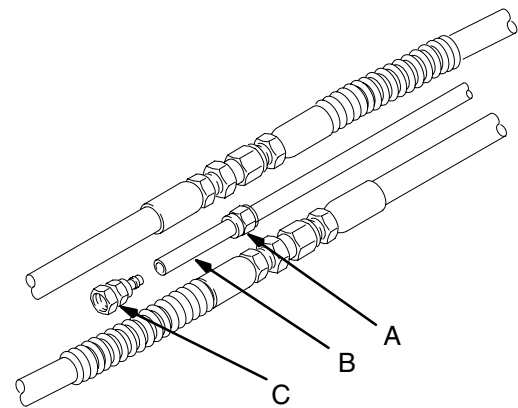

Fig. 2
- Cut the uncoupled air hoses (B) to a length that will be easy to couple to the next air hose. See Fig. 2.